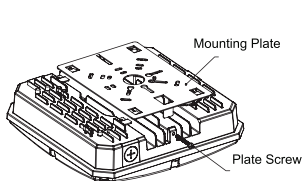

Figure 1
- Unfasten the plate's screw to detach the mounting plate from the fixture (Figure 1).